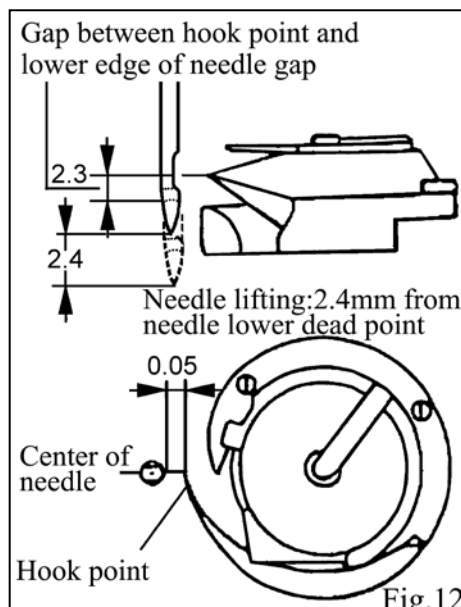

Fig.12
11. TIMING BETWEEN THE HOOK AND NEEDLE(Fig.12)